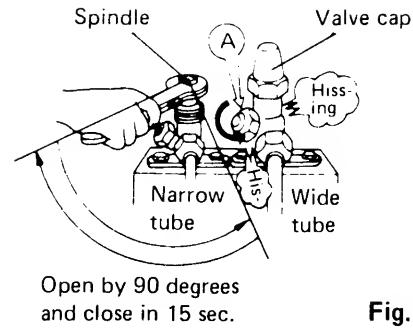

Fig. 30
- b) Loosen the flare nut (A) of wide tube by 180 degrees (1/2 turn). Fig. 30